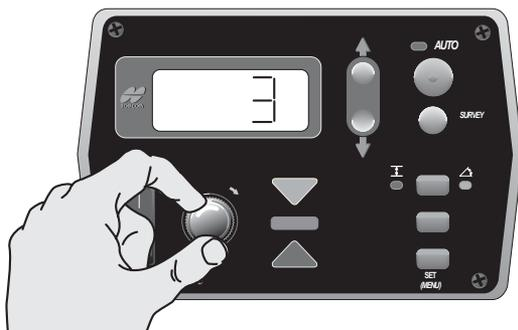

Figure 4-36. Select Value
2. Turn the Grade Adjustment Knob to select the desired value, typically 3mm (0.01') (Figure 4-36).